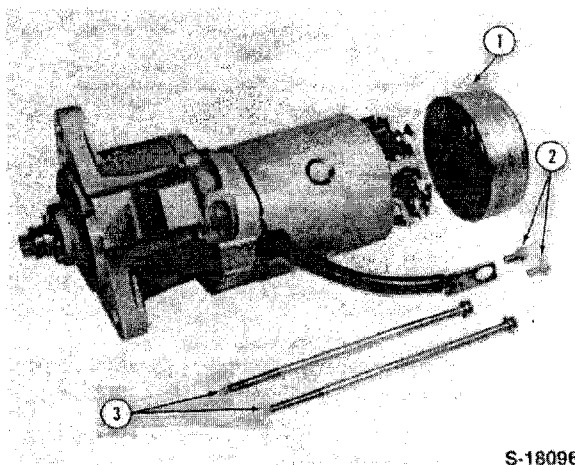

Figure 37
3. Remove the brush holder retaining screws (2) and through bolts (3). Remove the rear cover (1), Figure 37.